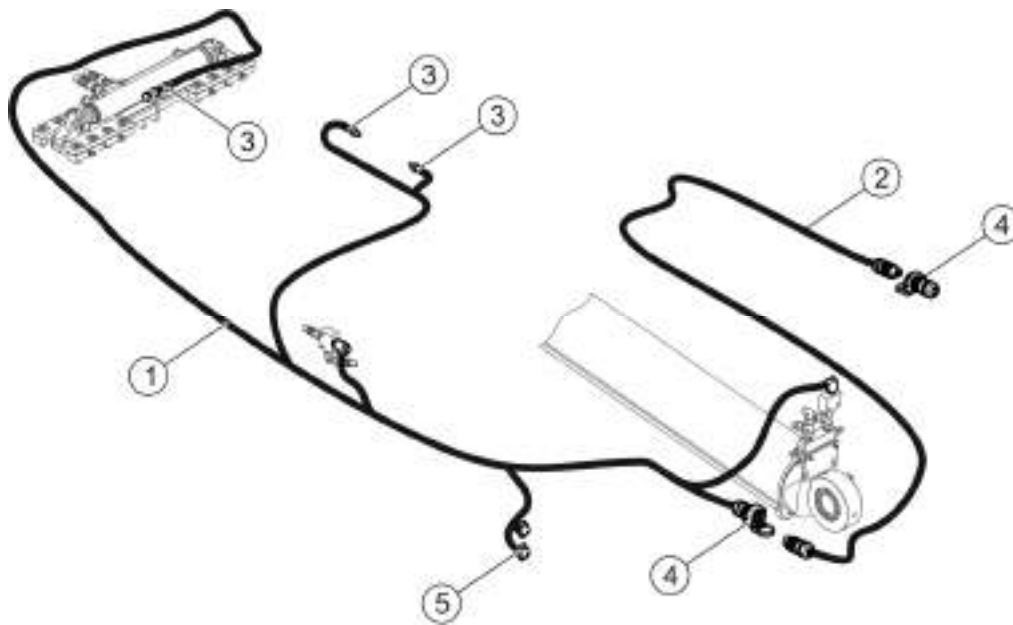

FIG. 3.13 Design of electrical lighting system of hydraulic system
(1) central wiring harness, (2) rear wiring harness, (3) front wiring harness, (4) connecting wiring harness, (5) connection lead, (6) 7-pin socket
The electrical system of the hydraulic system (*figure 3.13*) is connected using a connection lead (2) with a 3-pin plug. If the tractor is not equipped with such sockets or is equipped with a different type of sockets, carry out the sockets installation according to the recommendations of the tractor manufacturer. The standard equipment of the trailer includes a 3-pin socket (4) for installing in the tractor.